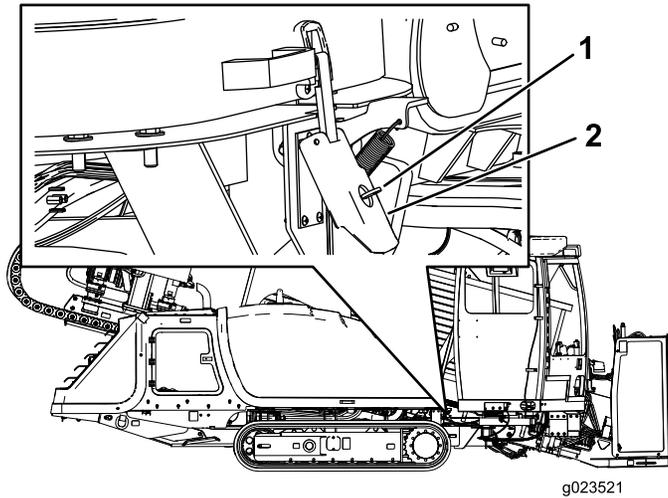

Figure 66
2. Lift up on the latch as shown in Figure 66.
Note: Ensure that the key is in the OPEN (horizontal) position as shown in Figure 66.